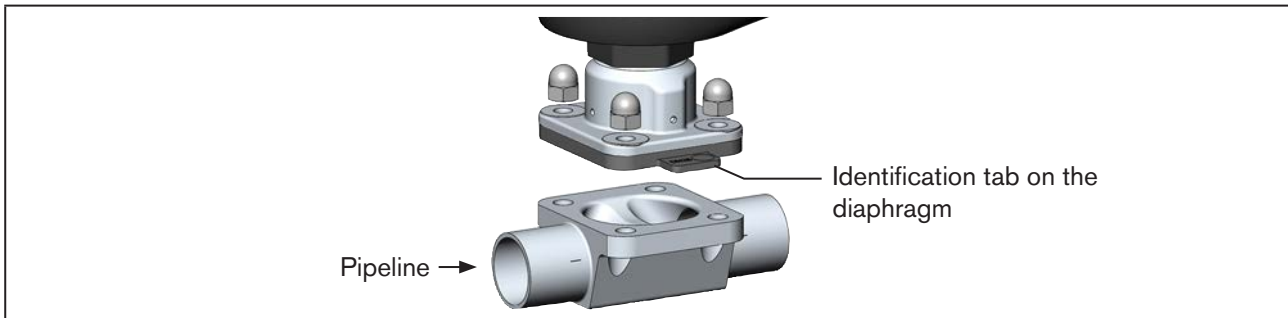

Figure 18: Aligning the diaphragm (example 2-way body)
The identification tab on the diaphragm must protrude out of the valve body at right angles to the longitudinal axis of the pipeline (see "Figure 18").
→ Align diaphragm. The identification tab on the diaphragm must protrude out of the valve body at right angles to the longitudinal axis of the pipeline (see "Figure 18").
-  Before installing the actuator, check whether the diaphragm is free of damage and correctly aligned. The mark tab of the diaphragm must protrude from the valve body at a right angle to the longitudinal axis of the pipeline (see "Figure 18").